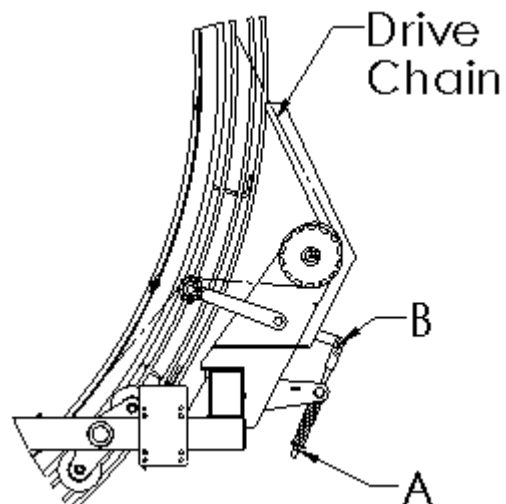

Figure 7-44: Wheel Drive Chain Tension Adjustment
2. Tighten nut (A), shown in Figure 7-44, until at desired chain tension.